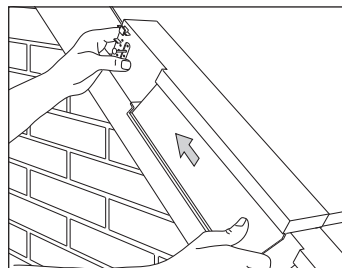

Fig. 5 – Slide up each unit to interlock
- 9 Successive dry verge units are interlocked together by sliding upwards against unit below, ensuring that lugs on outside of verge unit fit into internal locating slots (Fig. 5).